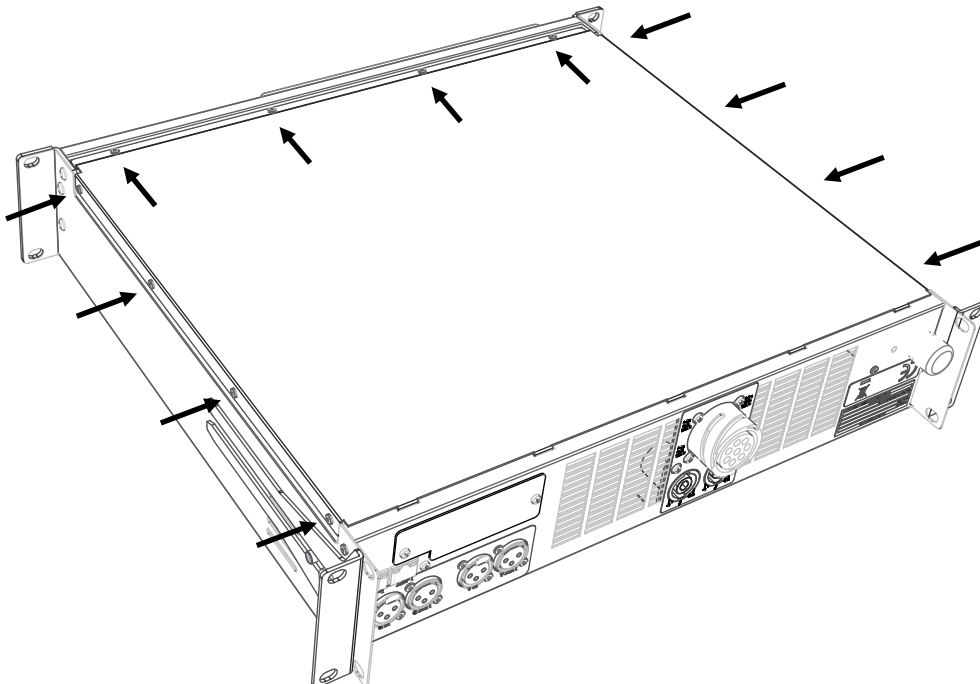

Figure 3: Back cover screw locations
7. Put the controller's back cover in place and screw in the 12 Torx® screws in the locations indicated in Figure 3.